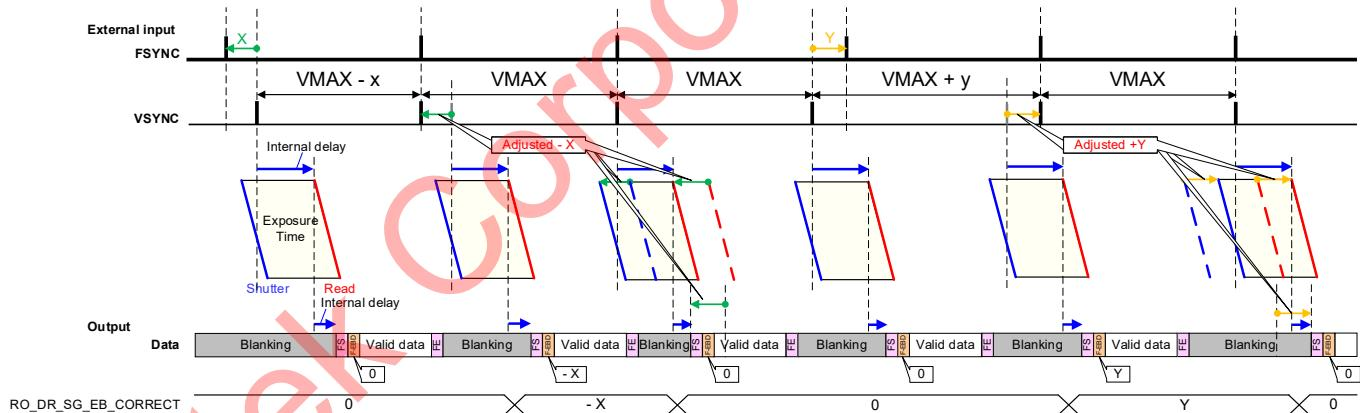

Figure 6-2 External Pulse-Based Sync in Master Mode
- As illustrated in “**Figure 6-2**,” when the sensor receives the external sync signal after the sensor begins operating autonomously, the sensor adjusts the vertical sync signal based on the time differential between the internal vertical sync signal input and the vertical sync signal of the sensor. The VSYNC signal in “**Figure 6-2**” is a virtual timing signal that indicates the assumed time when the sensor receives the external sync signal that makes the adjustment level 0.